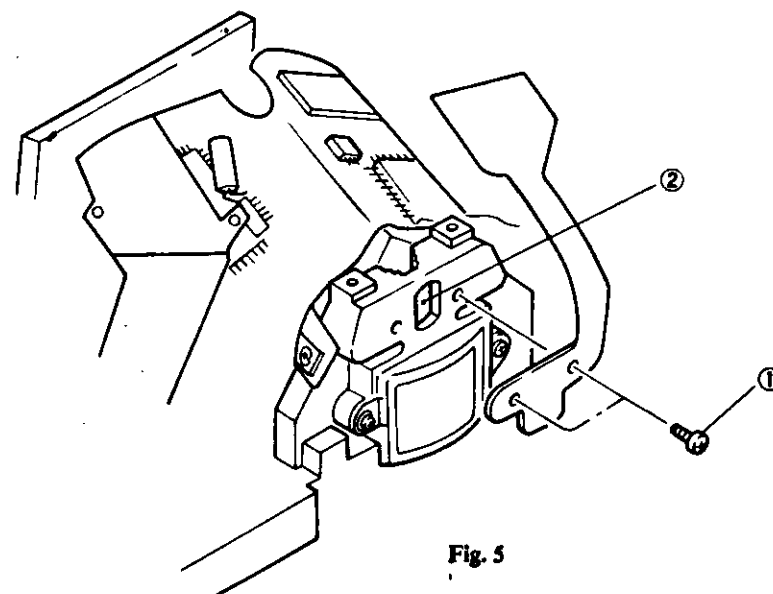

Fig. 5
- 5) Take off two SCREWS (No. 1) shown in Fig. 5.